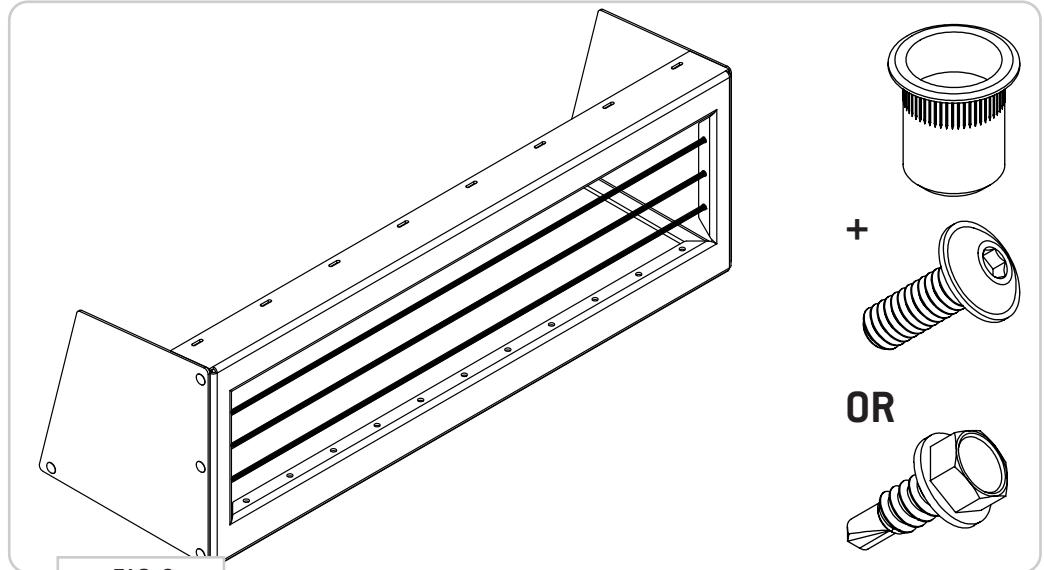
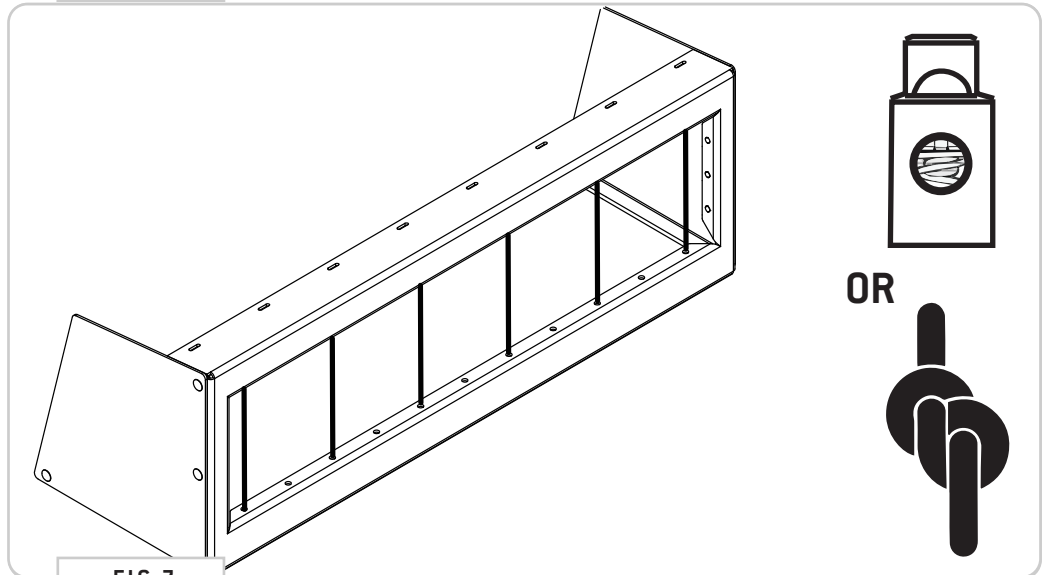

FIG 6
FIG 7
3.4 There are multiple slots available to accommodate whatever bungee cord pattern best suits your needs. See **FIG 6** and **FIG 7** for just a couple examples.